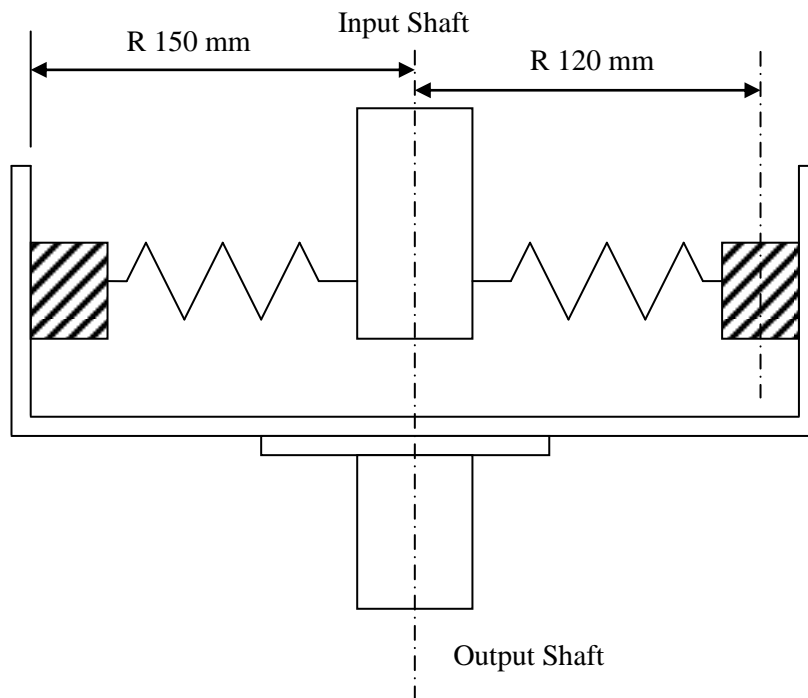

Fig Q4
- (a) the power delivered to the rudder stock; (8)
- (b) the bending moment in the tiller arm at a point 700 mm from the centre of the rudder stock. (8)
4. A centrifugal clutch is shown in Fig Q4 and has four shoes retained by springs. The shoes first contact the output drum at 9 rev/s, at which point the centre of gravity of each shoe is at a radius of 120 mm from the shaft axis. The internal radius of the output drum is 150 mm. When the drive shaft speed is then increased to 15 rev/s, the maximum power transmitted to the output shaft is 30 kW.